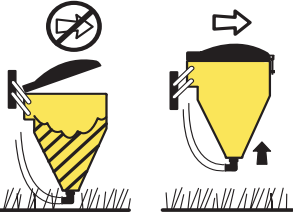

Fig 44
**IMPORTANT!** To prevent damage to equipment and crops, ensure GRANNI POT is secured in Transport Position before moving sprayer (Fig44).